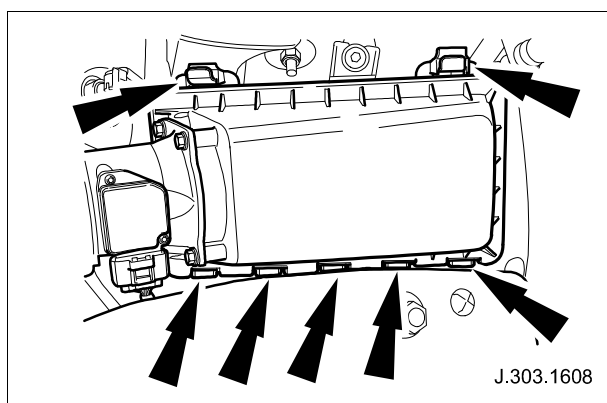

Fig. 19
- 4.7 Check air cleaner lid securing clips are secure, as shown in Fig. 19. If clips are loose, check the air cleaner (intake to engine side) for dirt ingress. Clean/replace as necessary and re-install lid ensuring securing clips are fastened correctly.